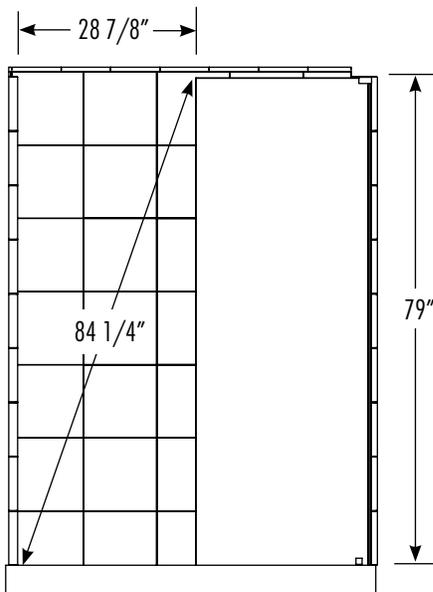
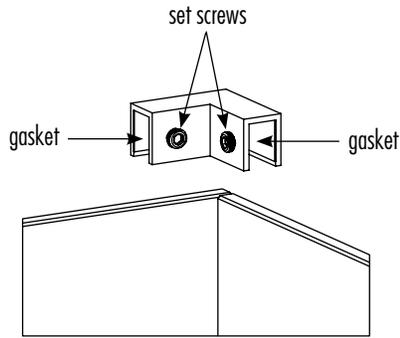

figure 31
figure 32
2. Using the rubber setting blocks provided adjust the height of the panel so it is 79" from the top of the shower pan threshold to the top of the glass (fig. 31). The setting blocks are small, clear, plastic blocks that are in a small baggy. This will allow the door to have the correct 3/8" gap for the door sweep. Use a level across the top of the glass to make sure it is straight. Take all measurements from outside edges of glass.
3. Locate the corner trim support bracket and place the gaskets on the inside of the bracket opposite the set screws (fig. 32).
4. Gently place the other glass panel into position and attach the corner trim support bracket (fig. 32). Use the setting blocks to make sure the glass panels are straight and square. Adjust the positioning of the glass so that the door opening is 28 7/8" wide (fig. 31).